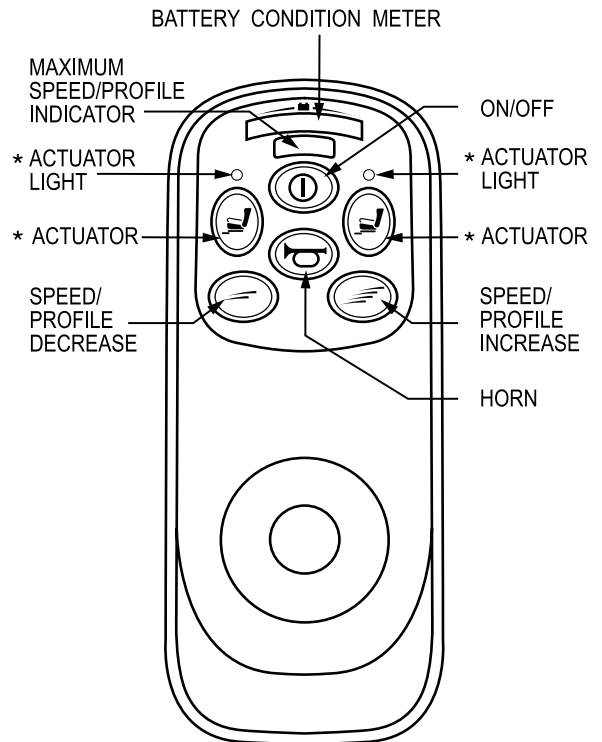

Figure 16. VSI Controller Keypad
2. keypad (see figure 16)
The keypad is located in front of the joystick. It contains keys necessary to operate your Jazzy. See figure 16.
The battery condition meter is located in front of the joystick. See figure 16. This is a 10-segment illuminated display that indicates that the VSI is turned on and also gives the battery status, the VSI status, and the electrical system status.
There are two keys that control either the speed or the profile. See figure 16. This depends on how your VSI was programmed. Press the speed/profile increase key to increase the speed or change the profile. Press the speed/profile decrease key to decrease the speed or change the profile. The speed/profile setting is displayed on the maximum speed/profile indicator. If your power chair was programmed with a drive profile, contact your authorized Pride provider for more information.